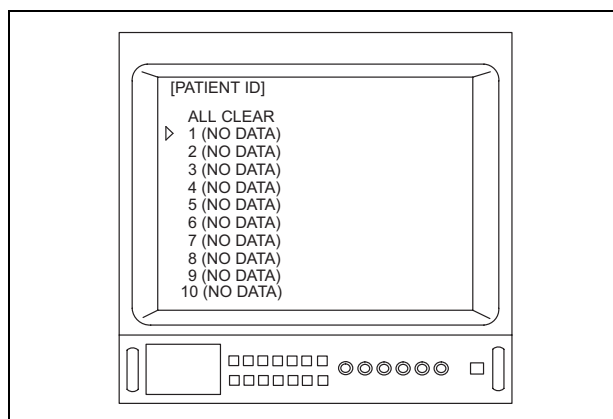

Figure 5.43
4. Depress the menu switches “◀” or “▶”, or the “↑/↓/←/→” key on the keyboard to move the arrow “▷” to the number that you would like to enter (for example, “1”) (see Figure 5.43).
Depending upon the OTV-S7V's settings, the menus shown in Figures 5.43, 5.44, 5.45, 5.46, 5.47 and/or 5.48 may appear different from those displayed on the video monitor.